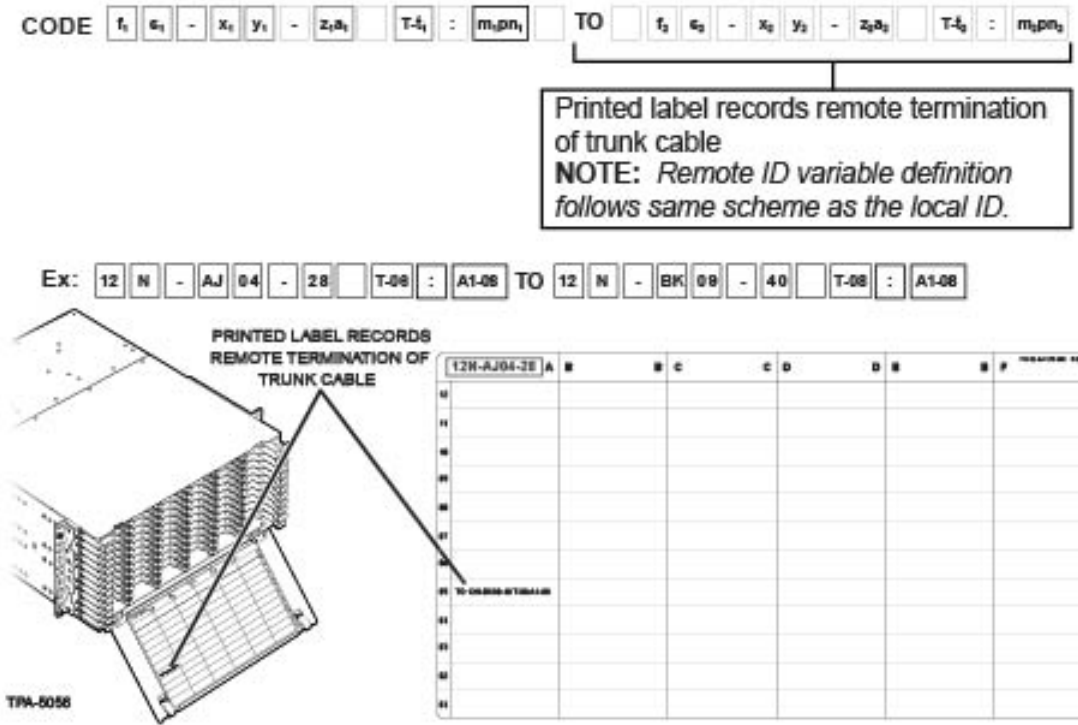

Figure 32 — Print Remote Termination Label
**Step 5: Documentation (Figure 32)**